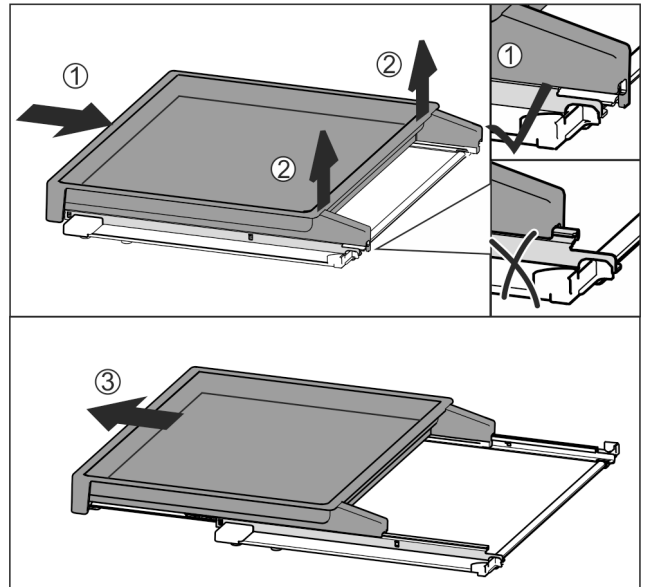

Fig. 50
- ▶ Slide the pull-out board all the way in Fig. 50 (1).
- ▶ Release the clips at the back Fig. 50 (2).
- ▶ Remove the pull-out board from the front Fig. 50 (3).